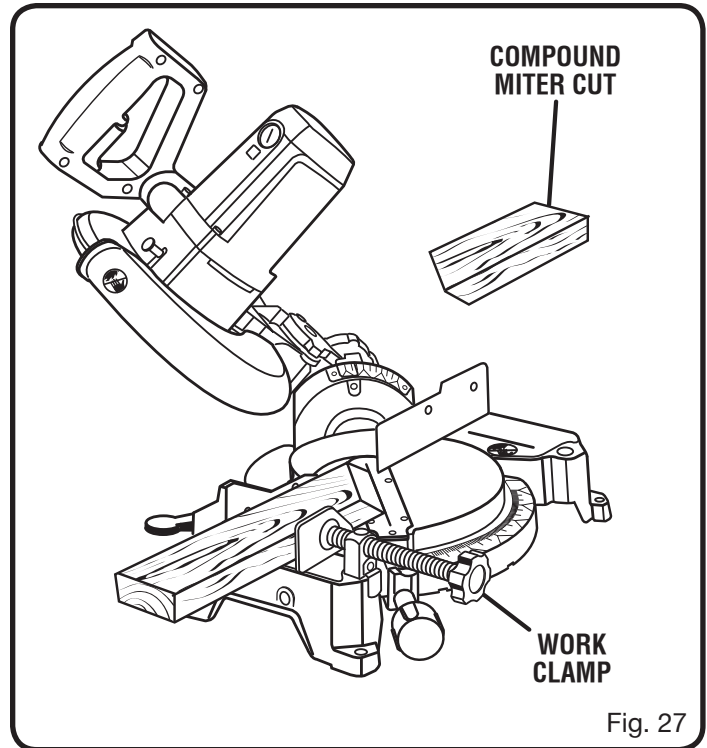

Fig. 27
*See Figure 27.*
- Slowly lower the blade into and through the workpiece. See Figures 27 - 28.